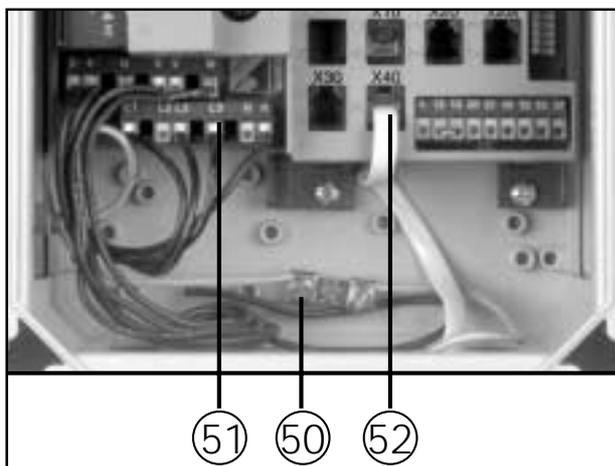

Fig. 5: Connections in control unit Control 44
- Connect control unit according to fig. 5 or 6.